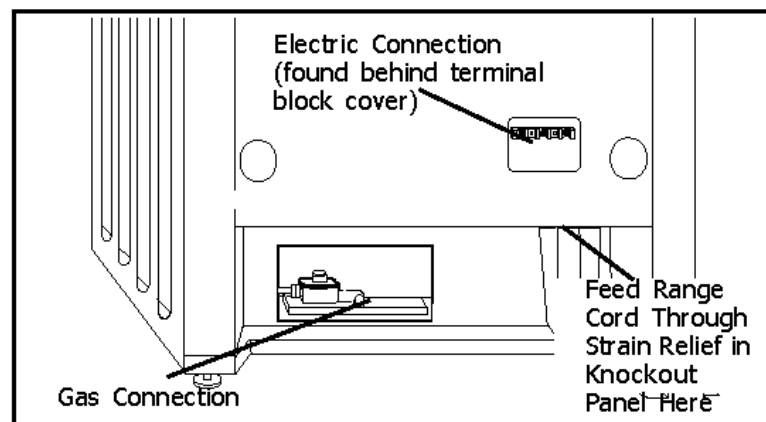

Figure 4
The power supply shall be connected to the range terminal block compartment located near the bottom of the back panel (See Figure 4, at right). It is accessible by removing the terminal block cover.
Place strain relief in knockout below terminal block (See Figure 4 below). Feed range cord through hole and strain relief up to terminal block. Allow for slack in the cord between the strain relief and terminal block. Once cord length/ slack has been adjusted, attach strain relief per instructions included with strain relief. Connect wiring as described below and on next page.
**Assemble LP Cooktop Orifices.** Place in cooktop exactly as layed out in the cover of this manual (also shown in Figure 3). If the orifices become separated from the cover, placement can be determined by matching the number stamped into the orifice with the placement specifications displayed in Figure 4. Place the new orifice into the socket then insert each orifice into its respective threaded hole in the jet holder. Tighten until the orifice stops turning. DO NOT OVER TIGHTEN.
3. Insert flat head screwdriver into shaft and turn bypass screw clockwise until it stops turning (See Figure 4). **DO NOT OVER TIGHTEN.** Replace knobs, springs and bezels.